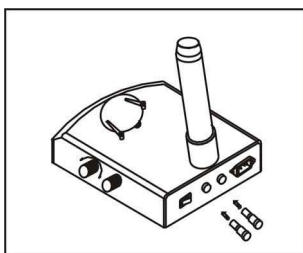

Fig. 12
- 1) Screw the fuse tube out with a screwdriver and pull the fuse out of the tube ①.
- 2) Remove the fuse and mount it in an adverse way (Fig. 12)
①